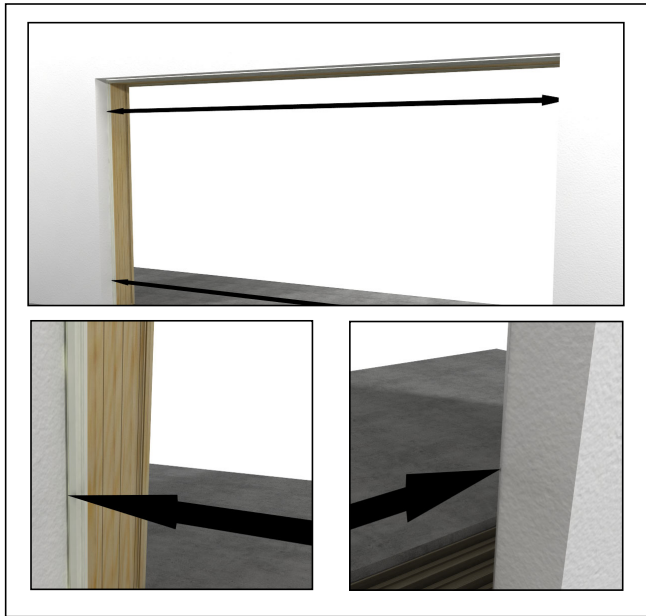

Figure 38
- Check the interlock base for plumb and adjust location to conform to exterior frame width specification provided in the field calculations. See figure 38. After alignment tighten interlock base screws.